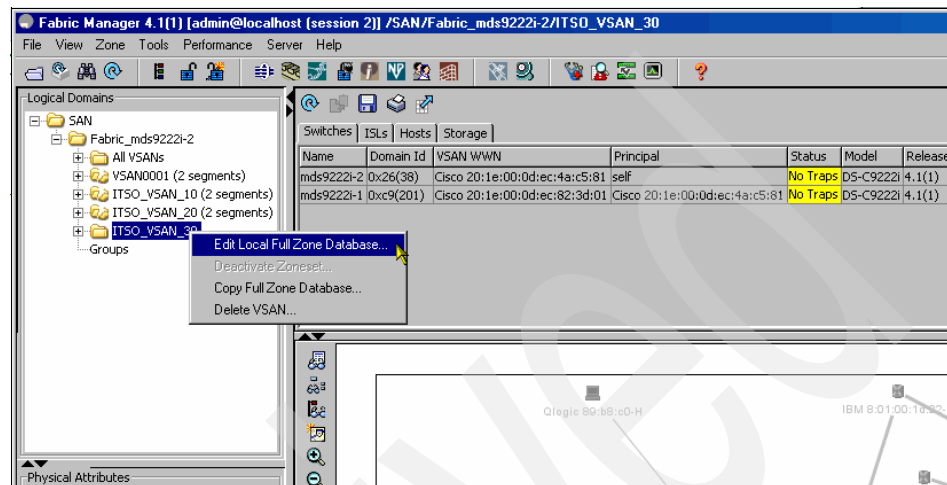

Figure 6-46 Edit full zone database for VSAN 30
1. As shown in Figure 6-46, right-click the VSAN to select to edit the full zoneset.